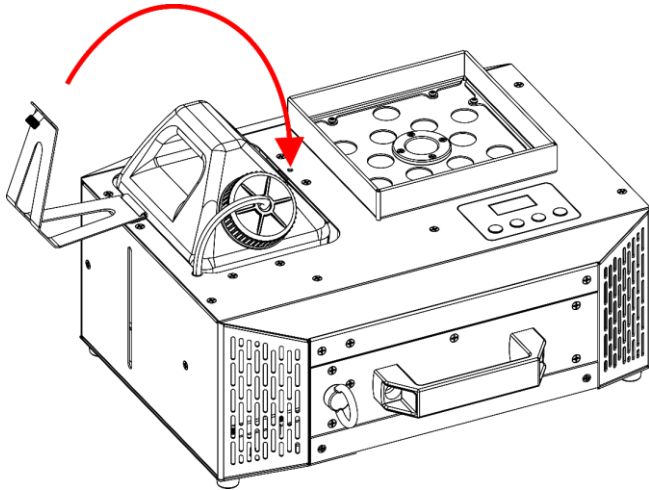

Fig. 46
- 11) Tilt the **bracket for liquid tank (03)**, as shown in Fig. 46.